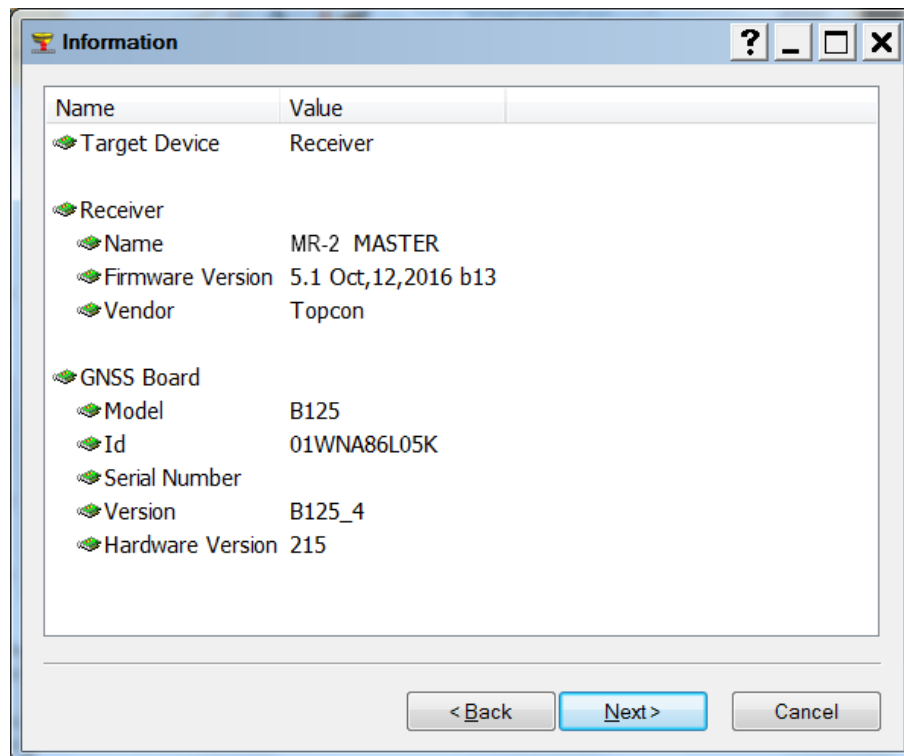

Figure 61: TRU – Receiver Information
- Click **Next**. The **Information** screen appears (Figure 61).